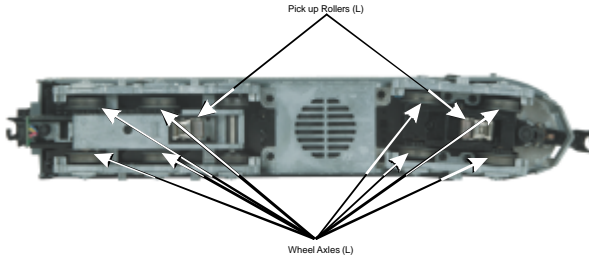

Figure 2 - Lubrication Points on the Engine
3. You should lubricate the wheel axles and pickup rollers to prevent them from squeaking. Use light household oil and follow the lubrication points marked “L” in Fig. 2 on page 9. Do not over oil. Use only a drop or two on each pivot point.